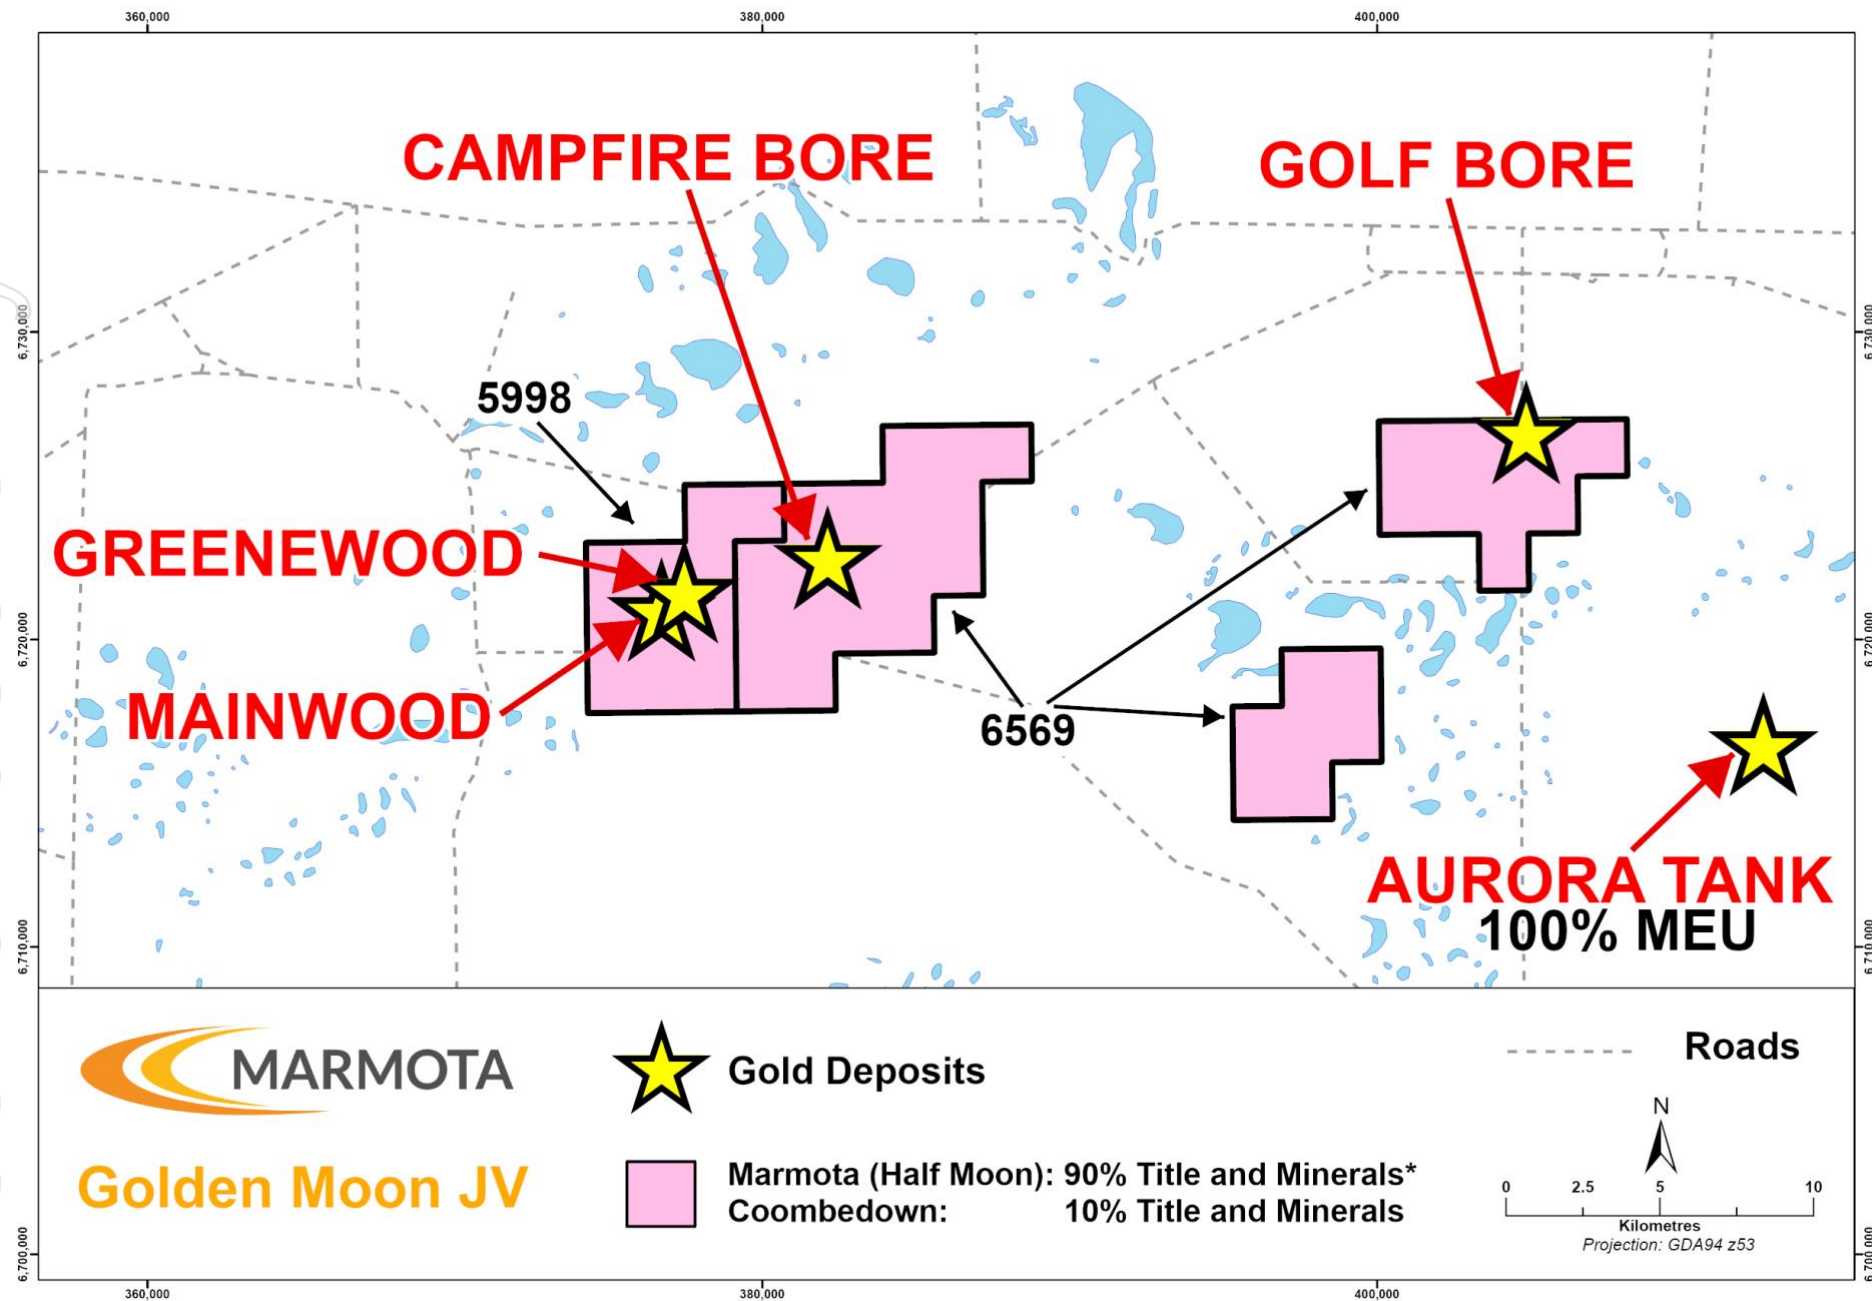

Figure 3: Location of Greenwood and Golden Moon JV deposits adjacent to Marmota's flagship Aurora Tank deposit
- Greenwood is located ~35km NW of Marmota's flagship Aurora Tank gold deposit and ~ 30km NE of the Challenger Gold Mine see [Figure 3 and 4].
- Greenwood's proximity to Marmota's flagship Aurora Tank gold discovery (100% owned) creates obvious economies of scope and scale that are patently attractive see [Figure 3 and 4].
Marmota's Gawler gold project comprises an arc of gold deposits along the flanks of the major 'Y'-shaped gravity anomaly in the NW Gawler Craton. The '**Arc of gold**' deposits include (from east to west: see Fig. 3 and 4):